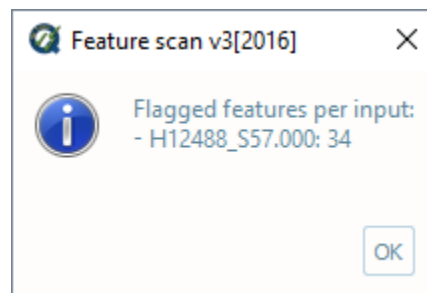

Fig. 2.44: Feature scan's output message.
- After computing, the output window opens automatically, and the results are shown (Fig. 2.44).